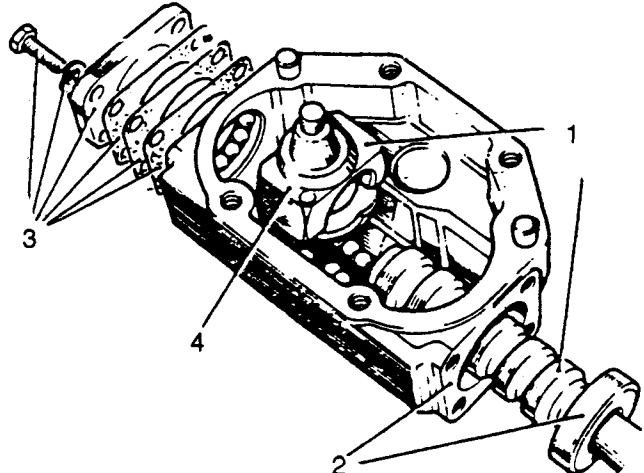

Fig L5.3
(7) Refer to Fig L5.3. Rotate the inner column to locate the main nut in the mid-way position on the worm shaft (1).
(8) Using a mallet, gently tap the box away from the inner column sufficient to remove the upper ball race (2). Take care not to lose the steel balls which will be released from the bearings.
(9) Wind the worm shaft through the main nut and remove the shaft, main nut and any loose steel balls.
(10) Remove the end cover, shims and lower ball race (3).
(11) Dislodge and remove the twelve 9,52 mm diameter ball bearings from the main nut and recirculating tube (4).